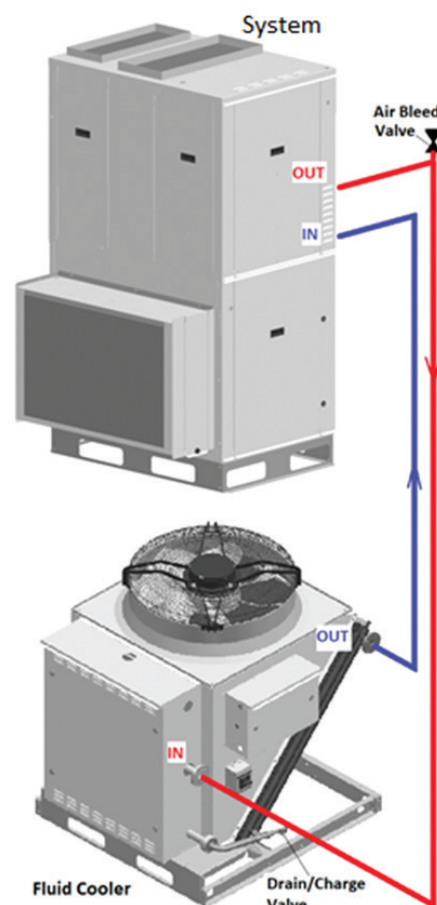
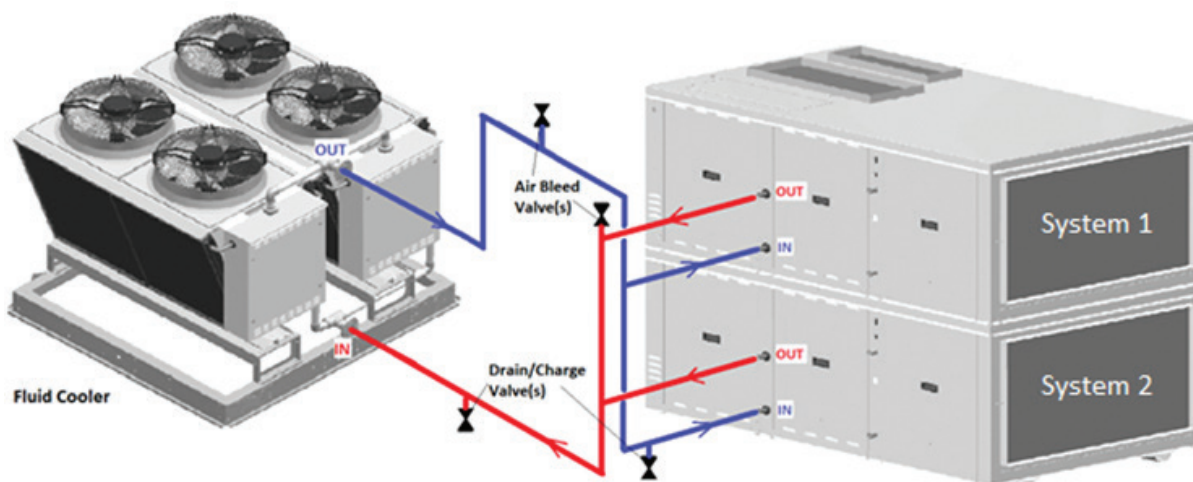

Figure 5. Drain Charge Valves
Figure 6. Multiple Systems Cooling Circuits
- ▶ Install drain/charge valve(s) at the lowest point(s) of the line set and the equipment; install air bleeding valve(s) at the top point(s) of the line set (see Figures 5 and 6); dry cooler would typically have drain/charge valves installed at their lowest point(s).
Figure 5 shows typical piping schematic for single dry cooler serving single system/cooling circuit. Piping schematic for single dry cooler serving multiple systems/cooling circuits is shown on Figure 6.